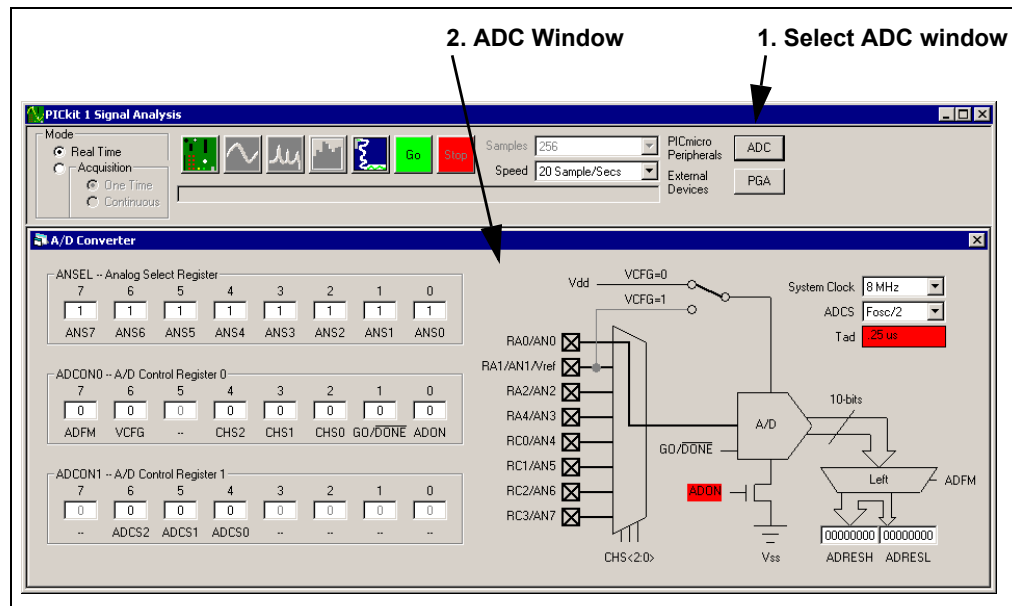

FIGURE 3-6: Manual ADC Configuration.
1. Clicking the ADC button (see Figure 3-6) opens the ADC configuration window. This window starts at the power-on default conditions for the ADC; therefore, it must be configured before use.